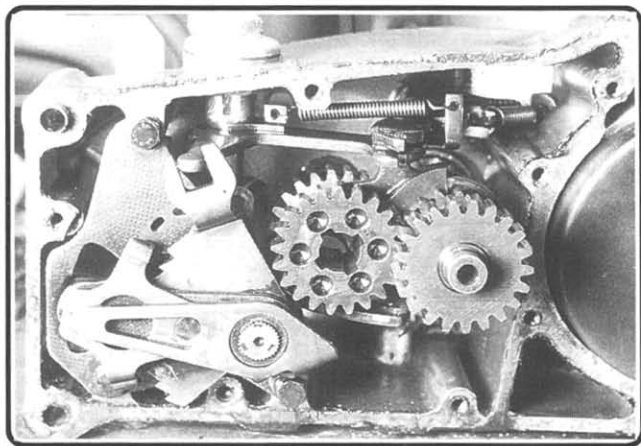

Figure 37. Layshaft and sliding gears.
- 22.5. Connect the *sliding gear* (4-138) and the *selector bridge* (5-167) to the sliding gears on the layshaft and install these parts as a unit. Figure 37 shows these parts in the crankcase waiting for the mainshaft to be inserted.